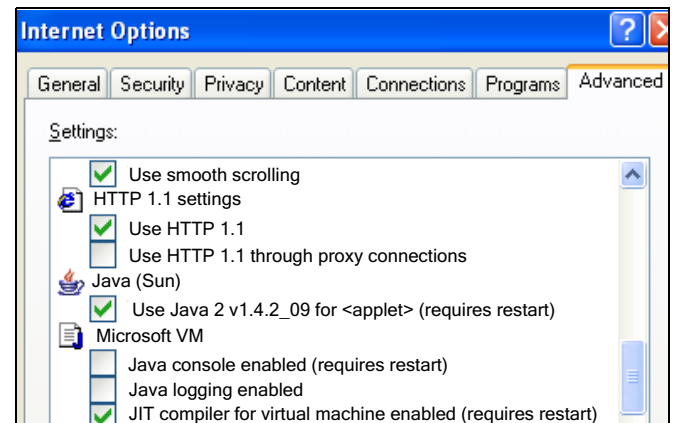

FIG. 3 Java Internet Options
2. The ProMix Easy Key software requires Sun java to operate. Open your web browser options and select Java (Sun) and deselect the Microsoft VM selection. See FIG. 3. If the Sun Java option is not available follow the **Software Operation** procedure and load the Sun Java program when the appropriate screen and link appear.